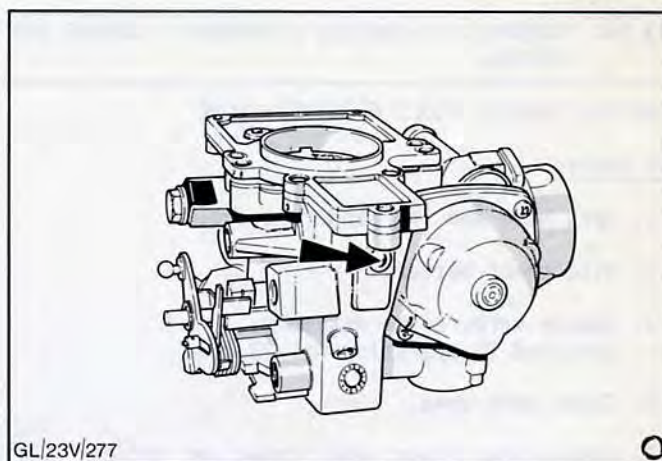

Fig.63. Main metering rod tamperproof plug.
11. Fit new tamper-proof plug in hole in venturi through which metering rod was installed. Refer Fig.63.